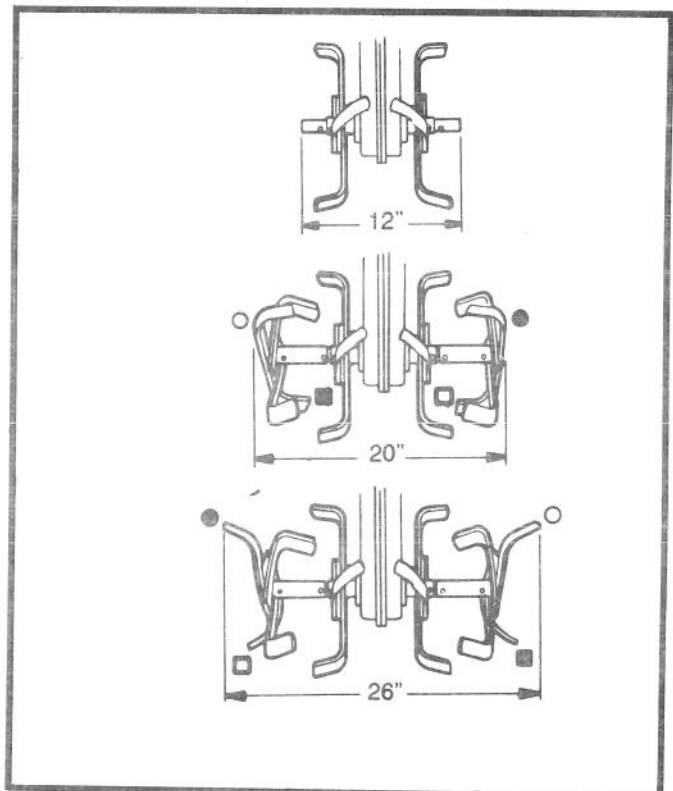

FIGURE 10
Choose one of three (3) different tilling widths (12", 20" or 26") by interchanging the tines pointing in or by removing the outer tine hub assemblies altogether, Fig. 10.
The 20" tilling width is achieved by removing two (2) tines (those that point out) from each outer tine hub assembly and transfer these tines, installing them on the opposite side of the tiller. The transferred tines should be pointing toward the chain case with the tilling edges (tapered edges) facing the same forward direction as the inner tine hub assemblies. Match symbols, as shown in Fig. 10, for easy changeover.